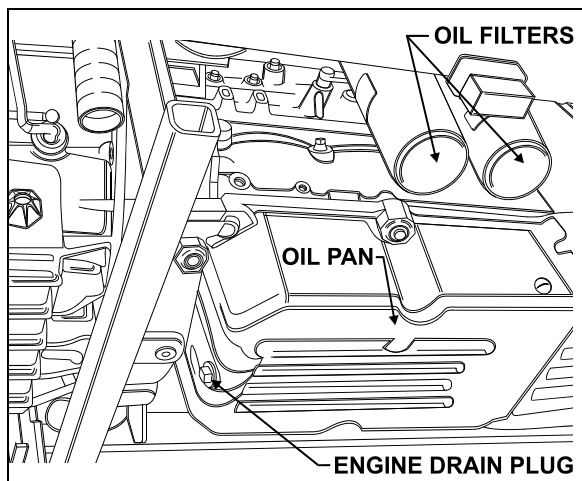

FIGURE 10: ENGINE DRAIN PLUG AND OIL FILTERS
1. From under the vehicle, remove the engine drain plug on the oil pan. Allow oil to drain (Fig. 10).